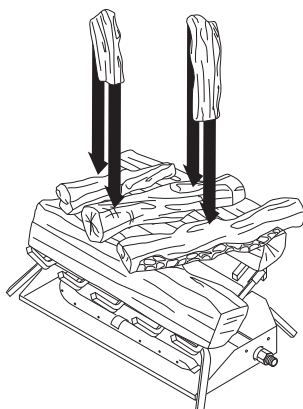

Figure 11 - Installing Top Logs
6. Place the smaller top logs onto the bottom logs (see Figure 11, page 10). Leave as much open space between logs as possible to minimize flame impingement and sooting. *Note:* Logs may chip if they are handled roughly or if hit together while being placed.